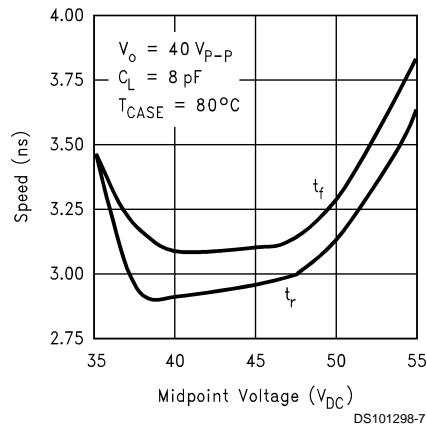

FIGURE 7. Speed vs Offset
*Figure 7* shows the variation in rise and fall times when the output offset of the device is varied from 35 to 55 VDC. The rise and fall times show about the same overall variation. The slightly slower fall time is fastest near the center point of 45V, making this the optimum operating point. At the low and high output offset range, the characteristic of rise/fall time is slower due to the saturation of Q3 and Q4. The recovery time of the output transistors takes longer coming out of saturation thus slows down the rise and fall times.